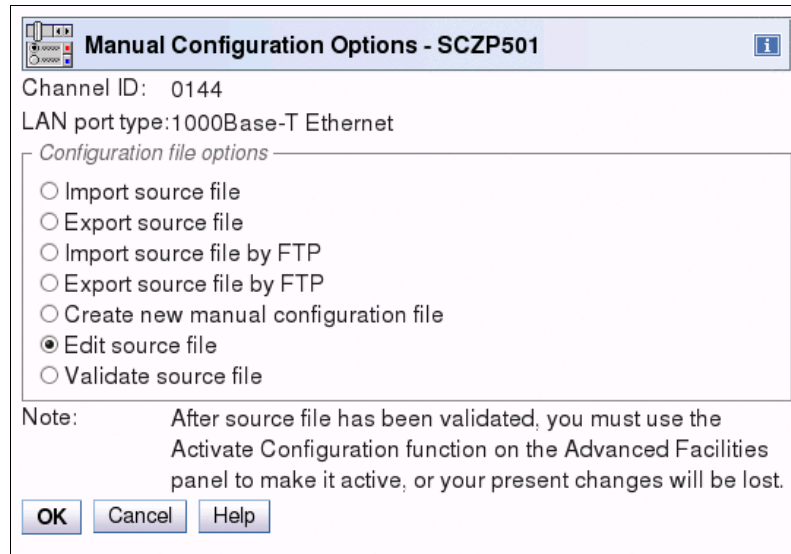

Figure 14-18 OSA/SF on HMC: Manual Configuration options
15. If you select **Manual configuration options** (Figure 14-4 on page 656), the panel shown in Figure 14-18 opens. In this panel, you can import/export the source file of OAT through a USB device or FTP, create a new configuration file on the editor on HMC, and edit the source file. For details, see *Open Systems Adapter/Support Facility on the Hardware Management Console, SC14-7580.*